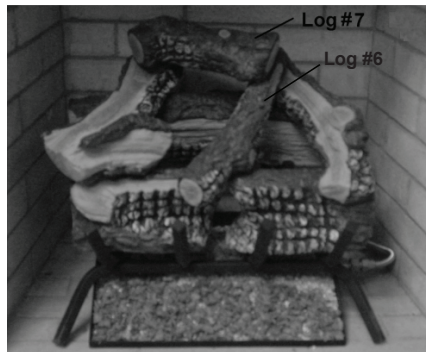

Figure 14 - Installing Top Logs #6 & #7
5. Place log #6 onto log #5 by inserting locating pin on log #5 into lower hole of log #6 (see Figure 14).
6. Place log #7 onto logs #4 and #6 by inserting locating pin on log #4 into lower hole of log #7 (see Figure 14).